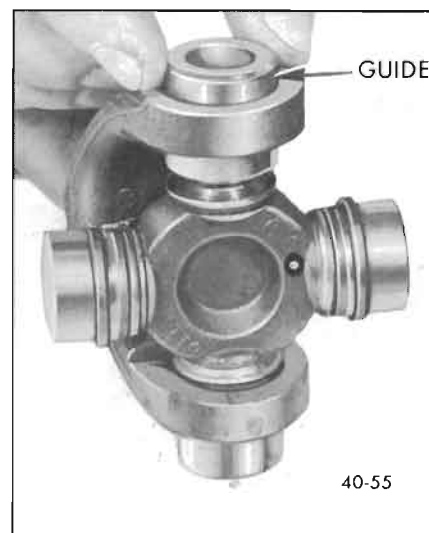

Figure 40-55—Installing Guide on U-Joint
5. Release pump and turn over propeller shaft. Install Guide J-9522-9 through the bearing hole in the yoke and over the journal end of the spider. See Figure 40-55. This guide assures alignment of the spider while removing the opposite bearing.